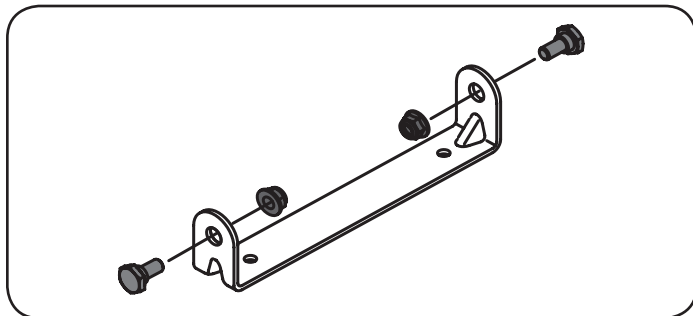

Figure 5
1. Remove the shoulder bolts and lock nuts from the seat mounting bracket included in your hardware pack. See Figure 5.